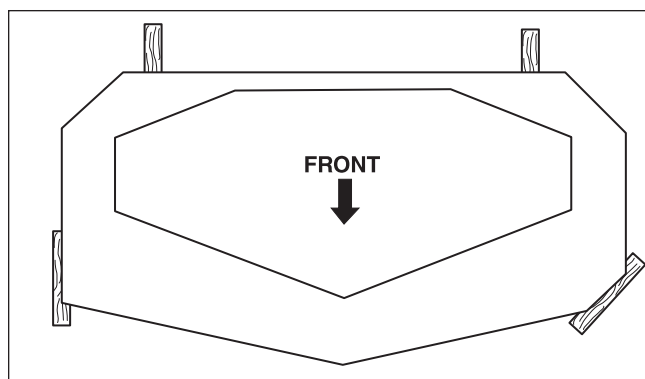

Figure 49. 2 x 4 Locations (Arrow points toward front of the deck)
3. Place 2 x 4 blocks under each corner of the mower deck with the 3-1/2" sides being vertical. Place a 1/4" (0,64cm) thick spacer on top of the rear 2 x 4 blocks. See Figure 49.